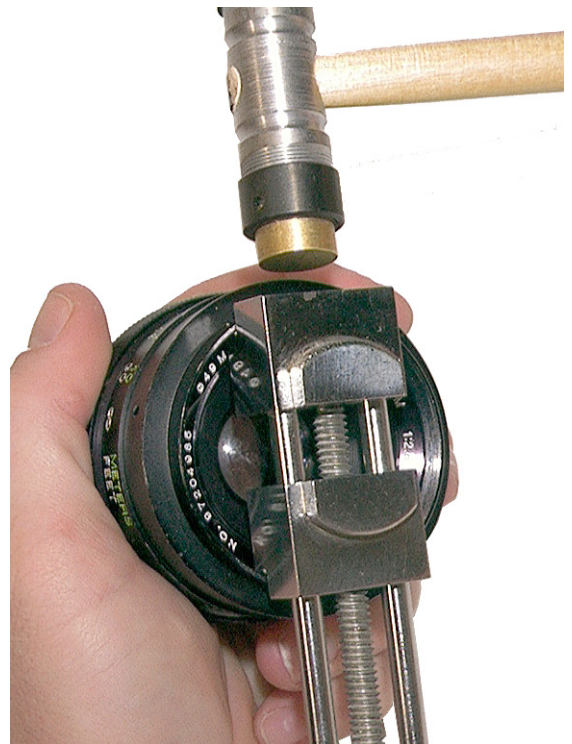

FIGURE 2
5. Tap lightly on the back side of the Lens Vise with the small hammer as shown in figure 2. Be careful to not strike the lens with the hammer.